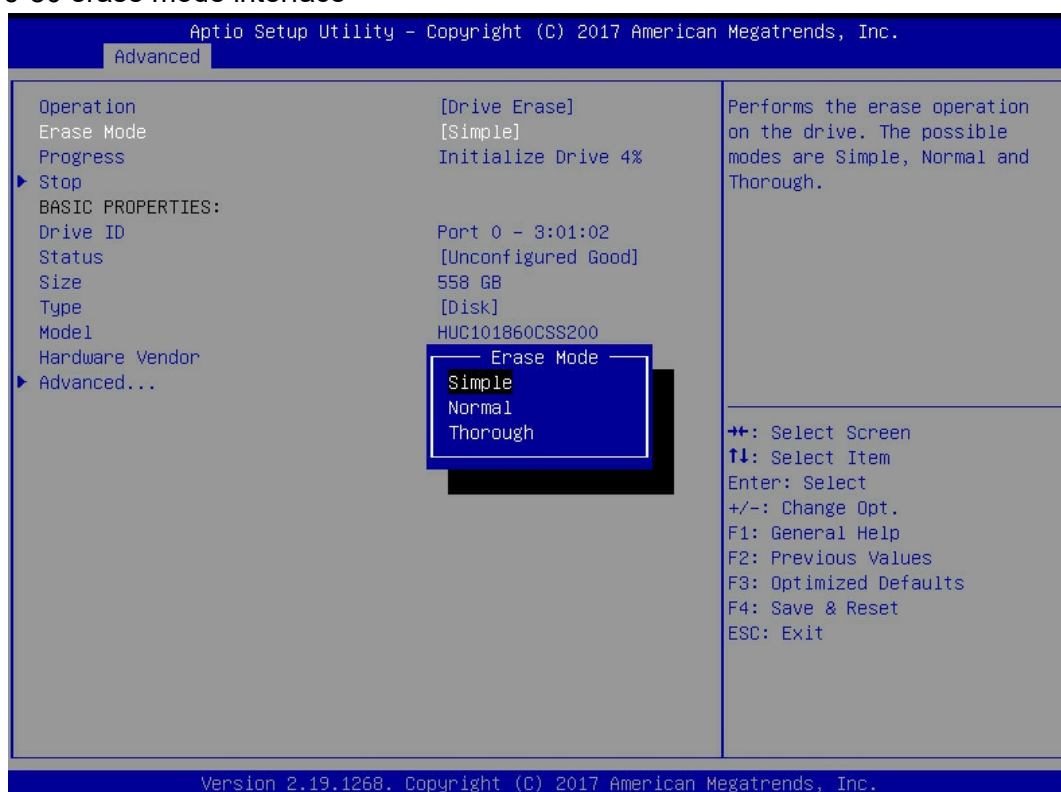

Figure 6-80
d) Enter the interface shown in figure 6-80, press enter, and then select erase mode in the pop-up dialog box (simple is recommended as the default mode).
✧ Figure 6-80 erase mode interface